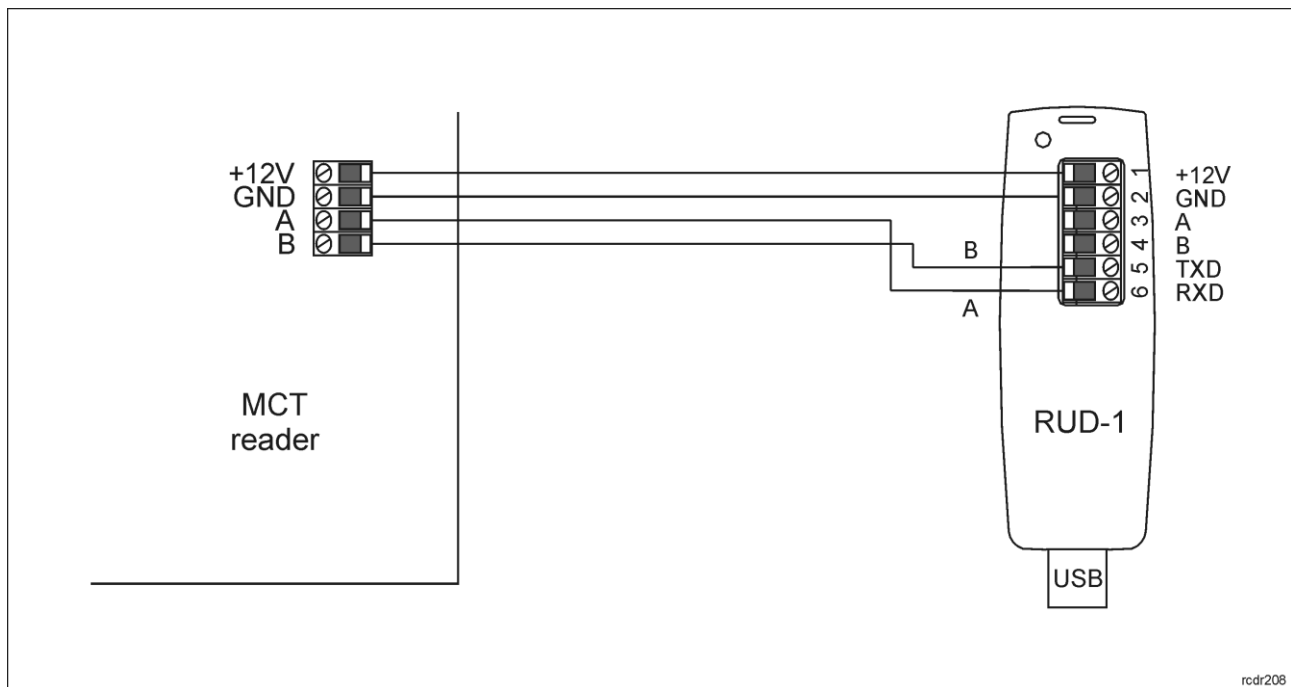

Fig. 10 Connection to RUD-1 interface (firmware update).
The update requires connection of device to computer with RUD-1 interface (fig. 10) and starting RogerVDM software. The latest firmware file is available at www.roger.pl.
1. Connect the reader to RUD-1 interface (fig. 10) and connect the RUD-1 to computer's USB port.